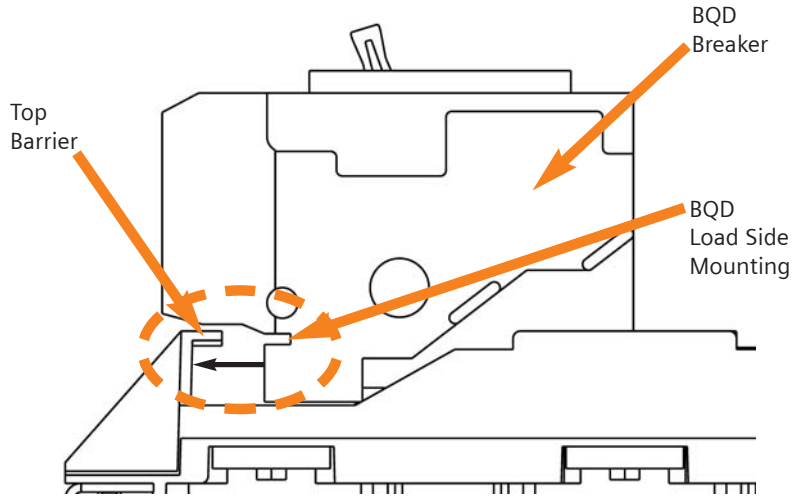

Figure 6.3
6. Engage the load side mounting of the BQD breaker into the slot of the top barrier to secure the breaker position as shown in figure 6.3 below.